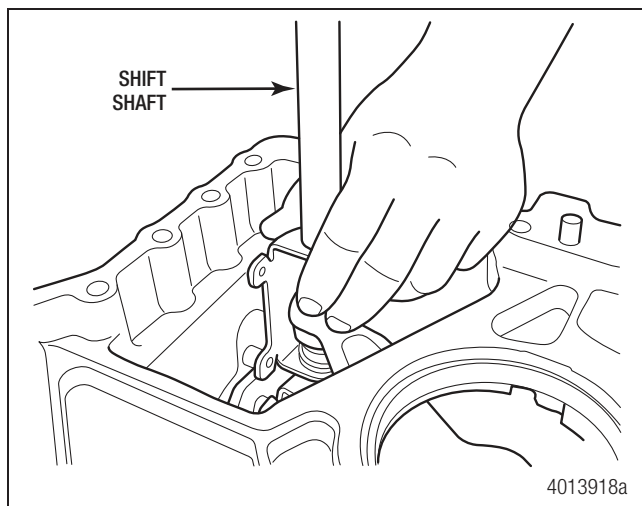

Figure 4.21
24. Pull up and remove the shift shaft. Figure 4.21.